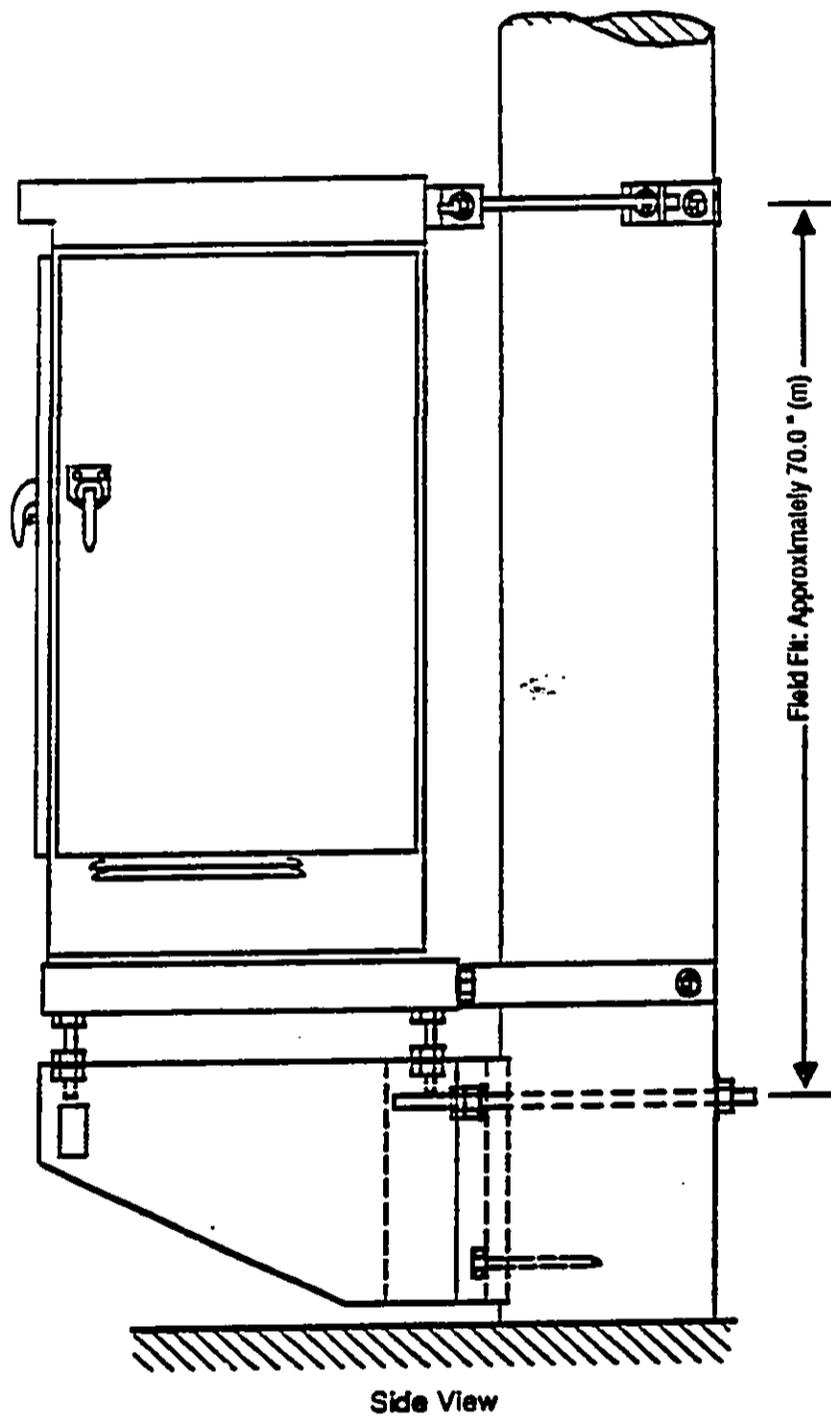
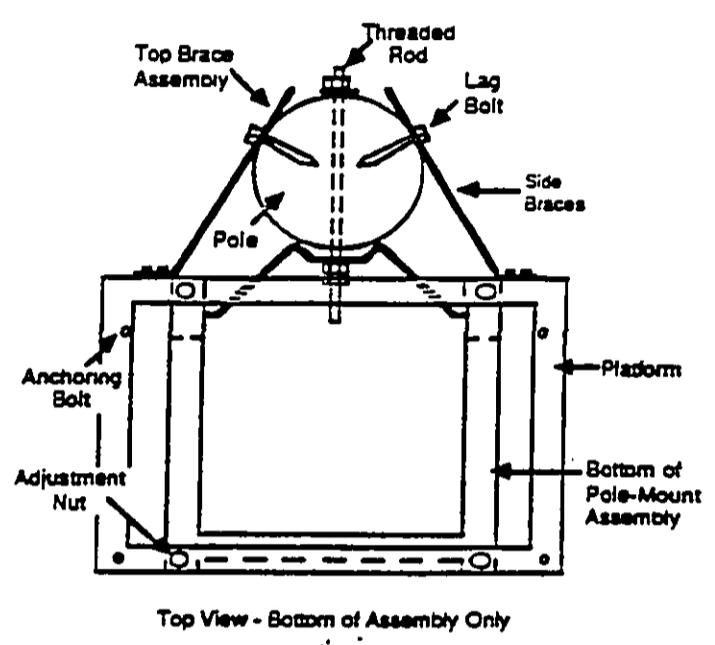

Fig. 2-4
Fig. 2-5
- 1) The NT4A19CN pole-mount kit (see Fig. 2-5) must be installed above local flooding levels and away from road hazards on Class 4 or larger poles.
- 3) Fig. 2-4 illustrates a pole-mounted 112 Line Cabinet, and Fig. 2-5 shows a top view of the pole-mount kit assembly, excluding the top brace assembly.